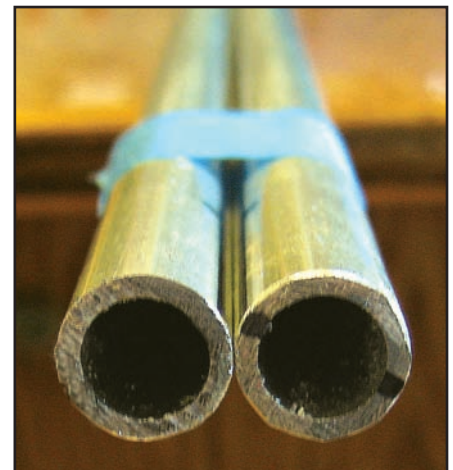

Figure 4 — Setting up two aluminum booms for marking down the middle.
- Using a laundry marker, mark the end of the boom on opposite sides as shown in Figure 4. The tubing on the right is the piece you are working on.